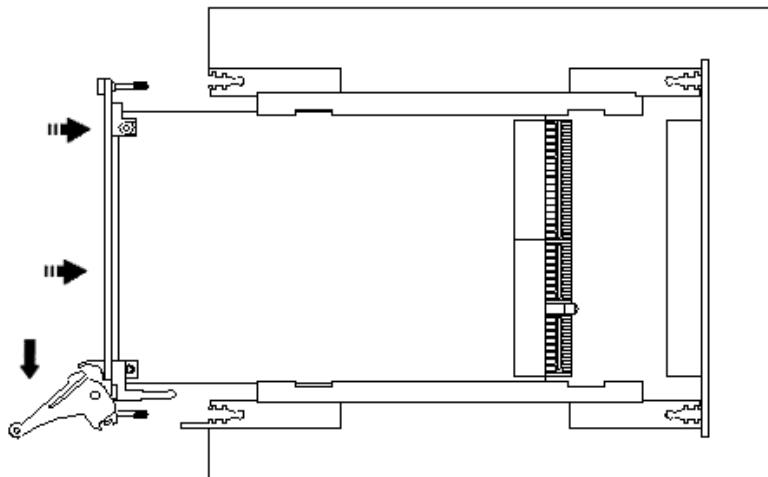

Figure 3-2: Ejector handles position during module insertion
4. Carefully slide the PXI board to the rear of the chassis, make sure that the ejector handles are pushed out (as shown in Figure 3-2).